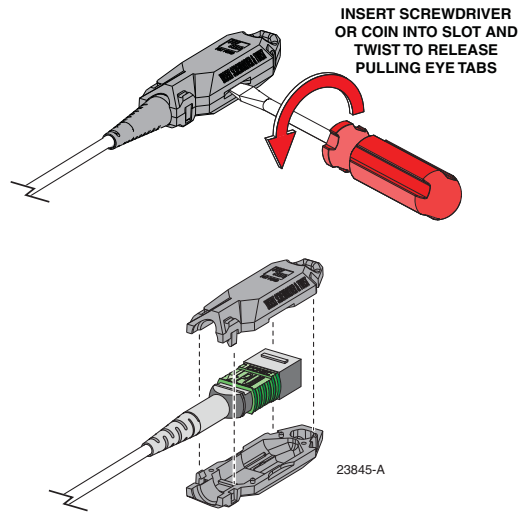

Figure 55. Removing a Pulling Eye
- a. Remove the pulling eye from each MPO connector by inserting and twisting a screwdriver or coin as shown in Figure 55.
- a. Remove the pulling eye from each MPO connector by inserting and twisting a screwdriver or coin as shown in Figure 55 on Page 42.